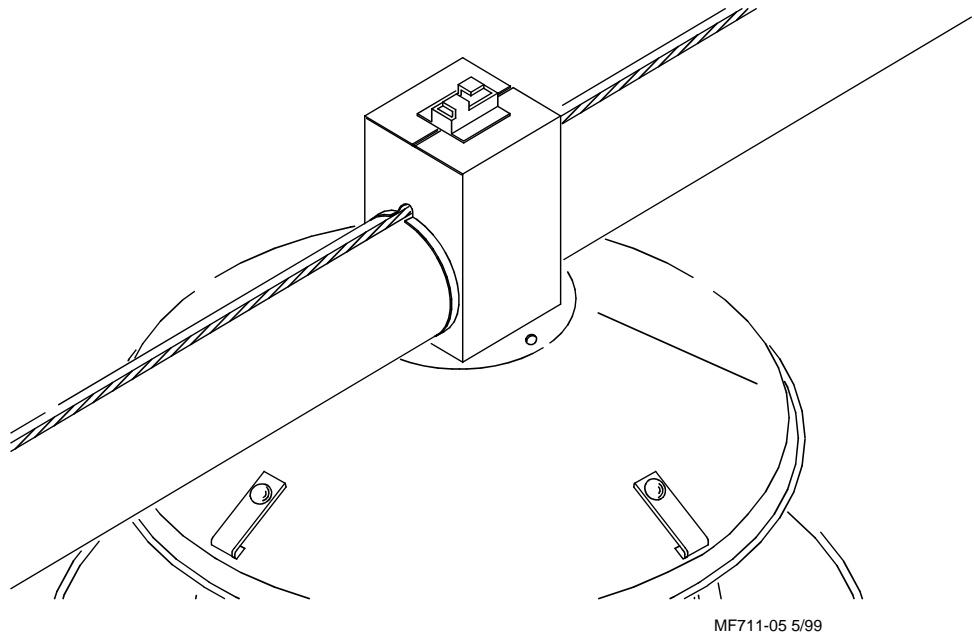

Figure 5. Winch Cable Routing
4. Thread the cable through every Drop Tube to support the cable and keep it in position. See **Figure 5**.